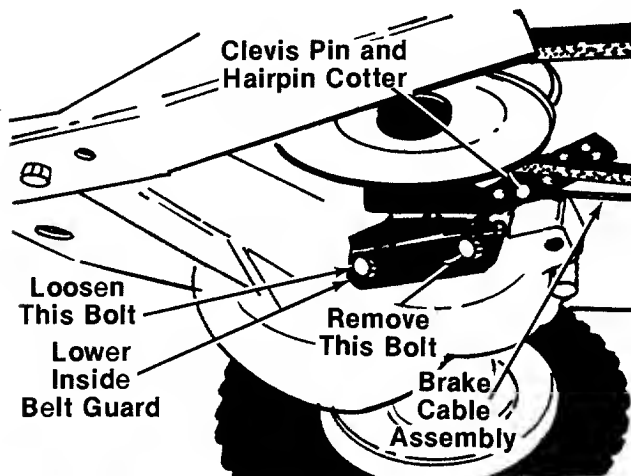

FIGURE 24.
7. Disconnect the brake cable from the lower inside belt guard by removing the hairpin cotter, clevis pin and flat washer. See figure 24.
8. Remove the front hex bolt from the lower inside belt guard as shown in figure 24.
9. Loosen the second bolt (**do not remove**), then pivot the guard downward, and slip the deck belt off the engine pulley. See figures 24 and 25.